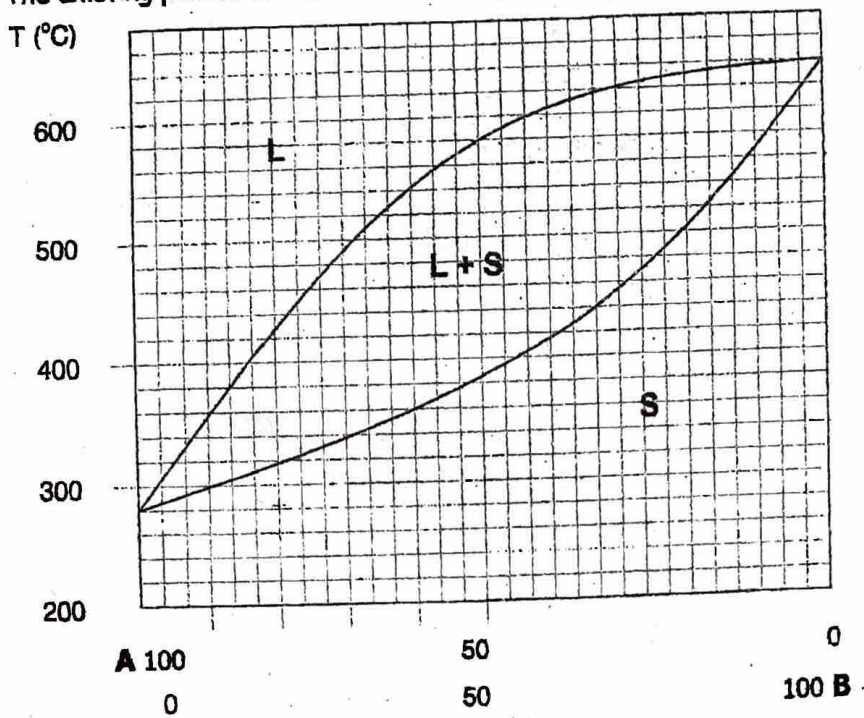

Figure 3
- T. 3. Figure 3 shows an A-B thermal equilibrium diagram. For an alloy containing 70 % A, determine: